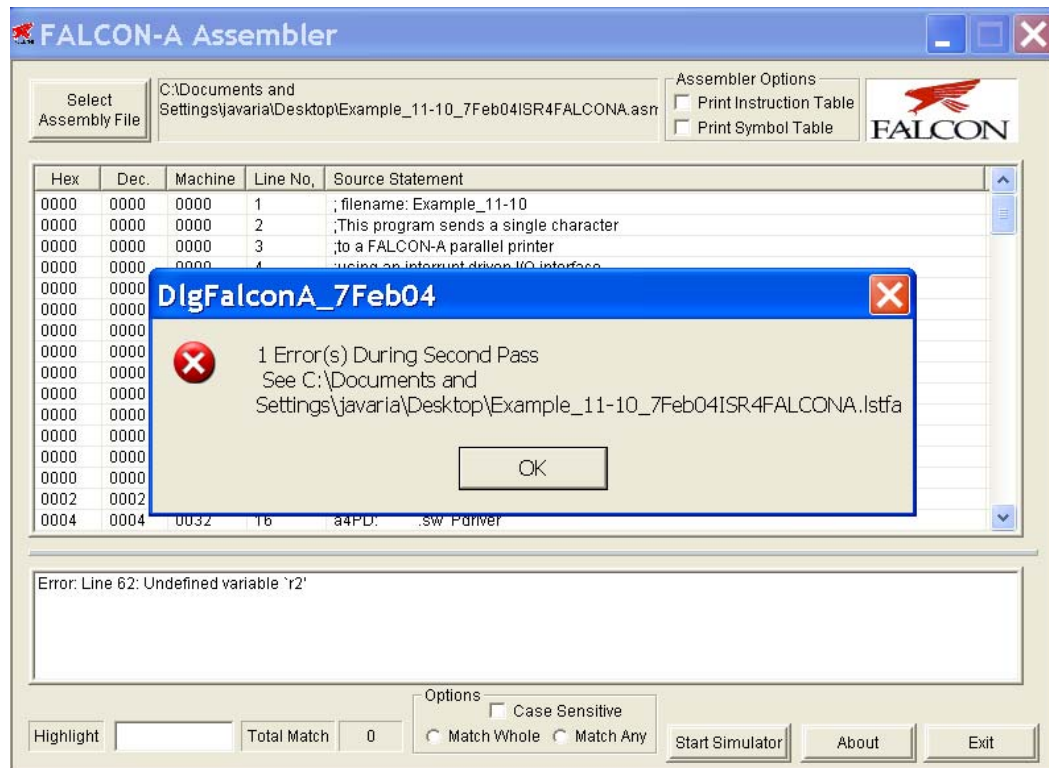

Figure 3
- Click on the open button. FALSIM will assemble the program and generate two files with the same filename, but with different extensions. A list file will be generated with an extension .lstfa, and a binary (executable) file will be generated with an extension .binfa. FALSIM will also display the list file and any error messages in two separate panes, as shown in Figure 3.